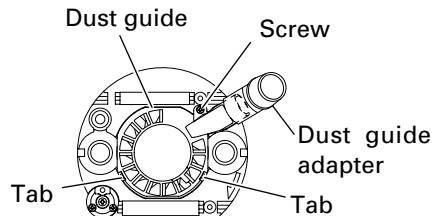

Fig. 16
- (4) Dust guide and dust guide adapter (Fig. 16)